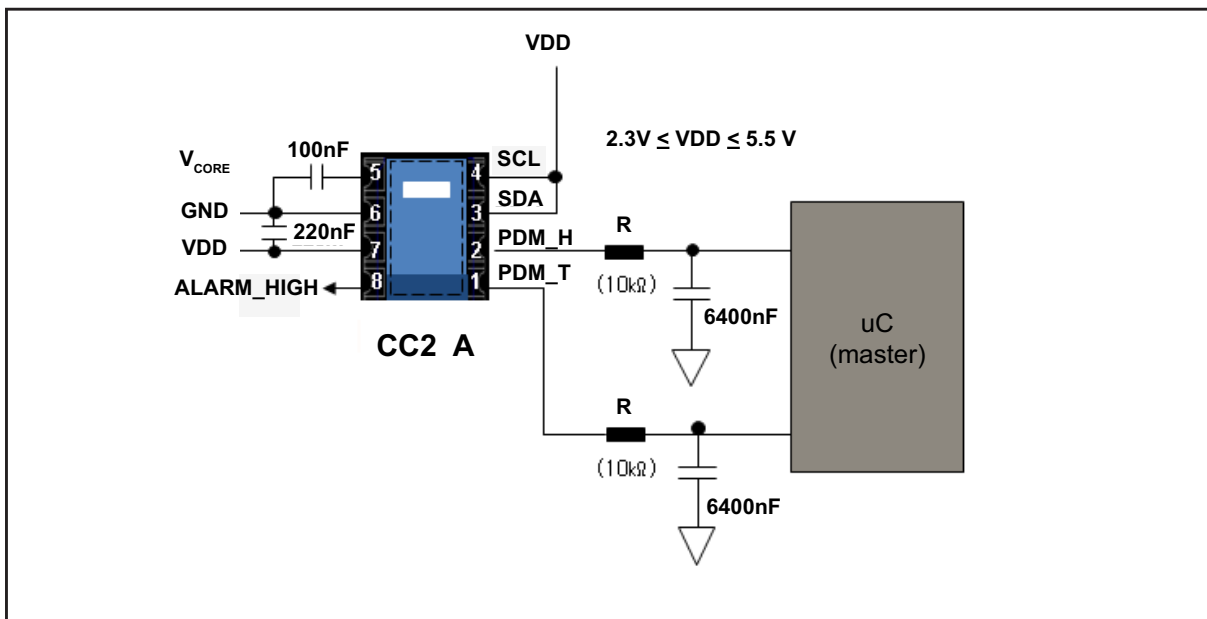

Figure 9: Typical Application Circuit (PDM)
**IMPORTANT:**  $V_{core}$  must not be connected to VDD, and it must always be connected to an external 100 nF capacitor to ground (see Figure 9 on page 13).